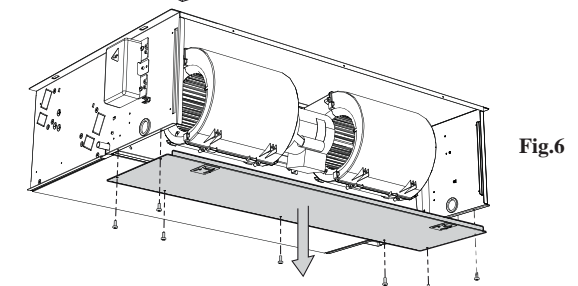

Fig.6
- Remove the ventilation compartment closure panel (fig.6)